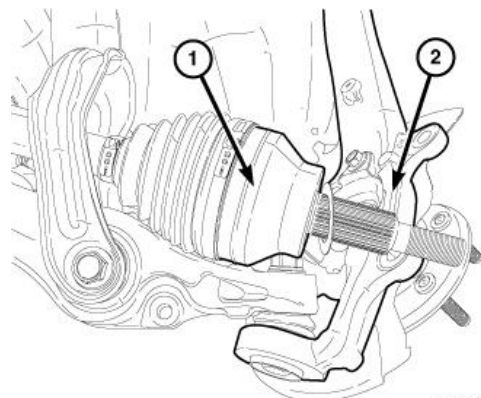

Figure 20 – Halfshaft from Hub/Bearing
38. Lean the knuckle (2) out and push halfshaft (1) out of the hub/bearing. Discard the coated washer between the outer CV joint and the hub (Figure 20).
13. Install halfshaft (1) through the hub/bearing (2) (Figure 20).